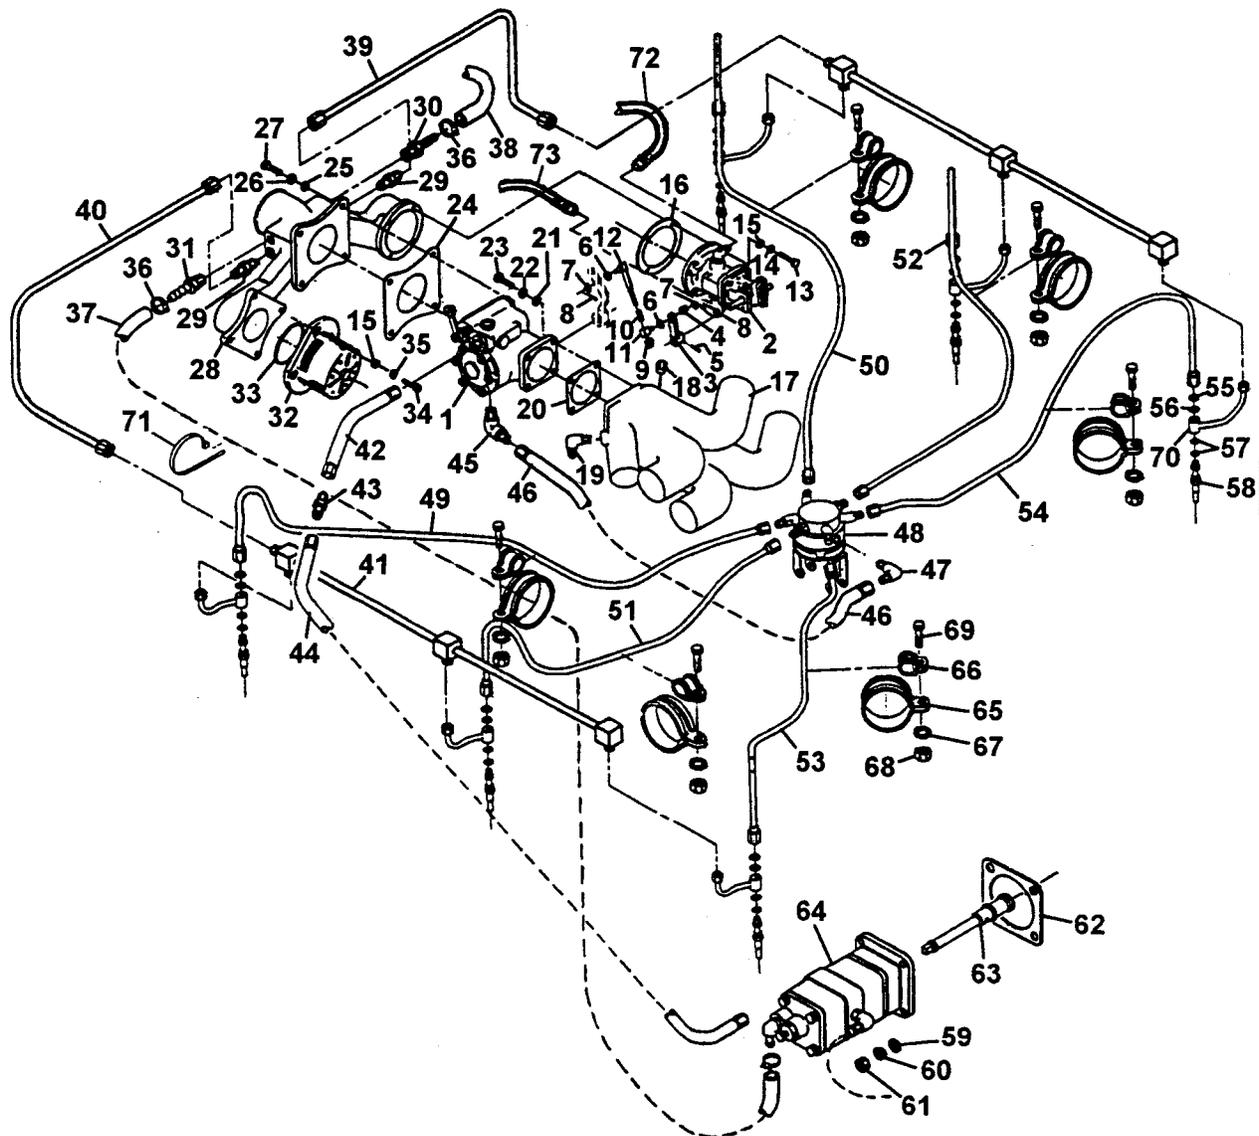
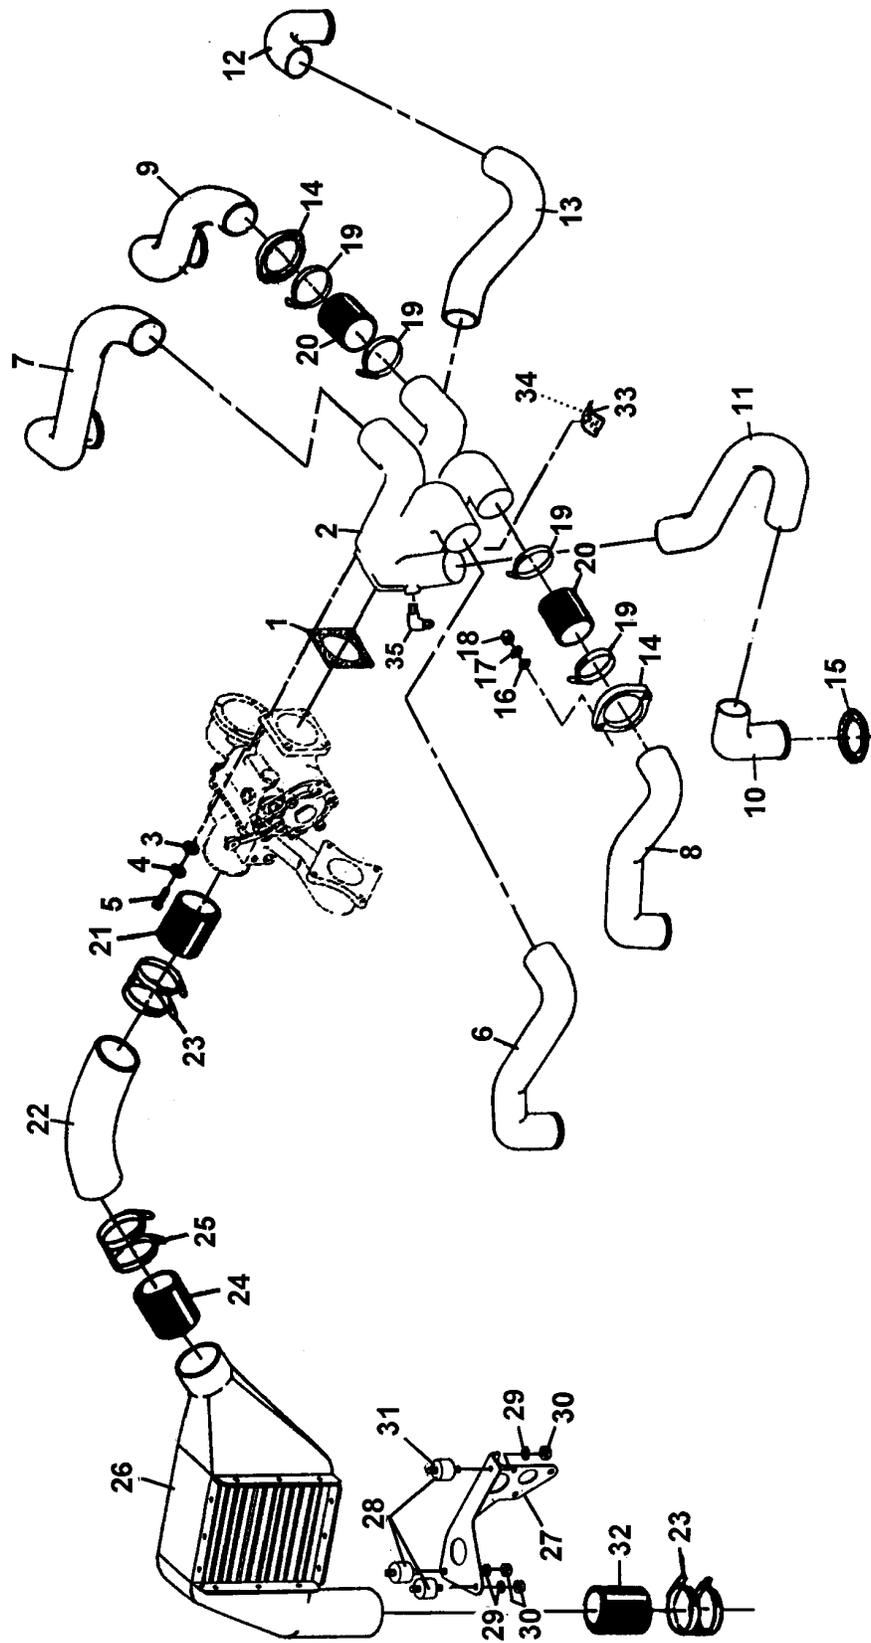

FIGURE 6-3. FUEL INJECTION SYSTEM
FIGURE 6-4. INDUCTION SYSTEM
6-3 FUEL INJECTION SYSTEM REMOVAL AND DISASSEMBLY (See Figure 6-3.)
3. Remove the 2-4-6 side air reference tube assembly (39) and air manifold tube assembly (41). Loosen and remove sleeves (70) from air manifold tube assembly (41).
4. Remove the 1-3-5 side air reference tube assembly (40) and air manifold tube assembly (41). Loosen and remove sleeves (70) from air manifold tube assembly (41).
- a. Remove fuel nozzles (58) from each cylinder.
- b. Remove o-rings (57) from nozzles (58) and discard.
6. Remove fuel hose (42), fitting (43), and hose (44) from fuel servo and fuel pump. Discard fuel hoses (42, 44).
7. Cut and remove tie strap (71). Loosen clamps (36) and remove air reference hose (37) from air throttle adapter and fuel pump. Discard hose (37) and tie strap (71).
8. Remove hose (46) from fuel servo and fuel manifold valve. Remove hoses (73, 72) from controller assembly (2). Discard hoses (46, 72, 73).
9. Remove the crankcase backbone hardware that secures the fuel manifold valve to the engine and remove fuel manifold valve (48).
10. See Figure 6-4, "Induction System." Remove clamp (23) and hose (21) between air throttle adapter and induction tube (22). Remove the assembled tubes, aftercooler, bracket and place on a work bench to be separated later. Discard hose (21). See Figure 6-3, "Fuel System." Remove screws (23), lock washers (22) and washers (21). Remove air throttle adapter assembly (28), fuel servo(1), controller (2) and overboost valve (32) as an assembly from the engine. Discard gaskets (20, 24) and lock washers (22, 26).
11. Remove nuts (61), lock washers (60) and washers (59). Remove fuel pump assembly (64) and gasket (62). Reach into crankcase fuel pump cavity and remove drive shaft (63). Discard fuel pump gasket (62) and lock washers (60).
(See Figure 6-4.)
NOMENCLATURE FOR FIGURE 6-4.